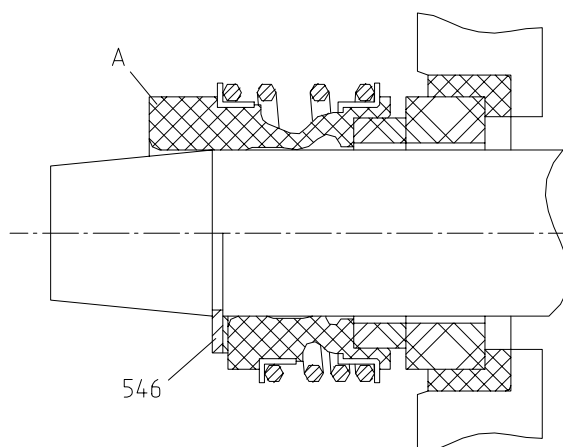

Fig. 14
**c) Rubber-bellows seal, external spring - type "G" (Fig. 14)**